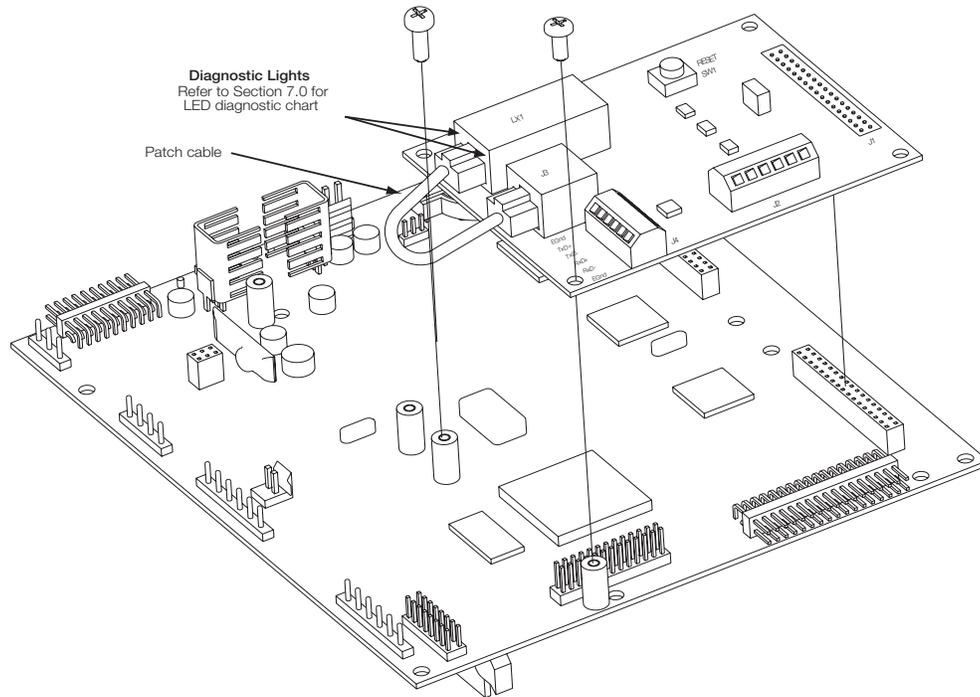

Figure 5-2. Ethernet Card Installation onto 920i CPU Board
- If termination to LX1 with an RJ-45 connector is not possible, connection with twisted-pair cable should be made directly to J4. Use the patch cable to connect LX1 and J3 as jumpers, only if J4 connection is used. See Figure 5-2.